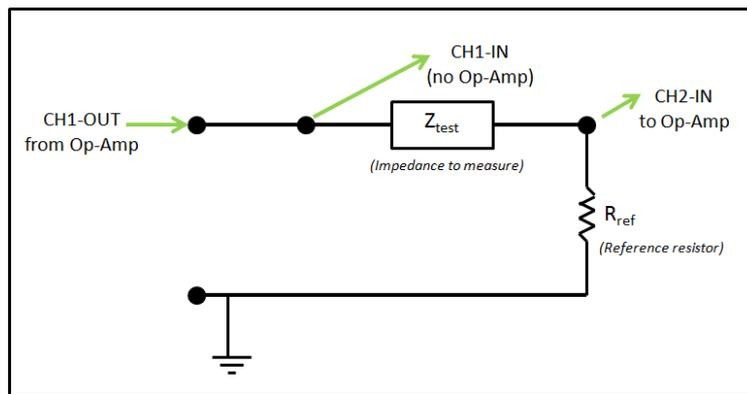

Figure 4: Circuit to measure a test impedance. The reference resistor  $R_{ref}$  should have an impedance magnitude similar to the test impedance.
2. Impedance-measurement circuit: Build the circuit shown in Figure 4, connecting to the op-amps and the MU box as shown in the diagram. Using a voltage divider with a reference resistor  $R_{ref}$ , you will be able to measure an unknown impedance  $Z_{test}$ .
- (a) Place a “test resistor” (of known impedance) in series with the reference resistor  $R_{ref}$ . Your test resistor should occupy the place of  $Z_{test}$  in Figure 4.
- (c) Use two inputs (into the MU-box), taken across the ‘test resistor’ terminals. Channel 1 should be connected to the “high” side of the speaker, and Channel 2 connected at the place where the speaker and reference resistor are joined, as described in Fig. 4.